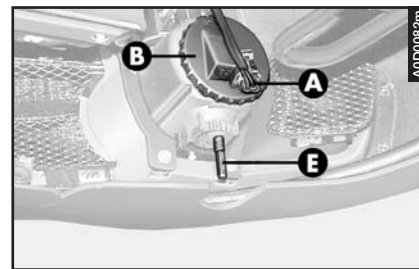

fig. 50
- Disconnect the connector (**A- fig. 50**) from the light unit.
**IMPORTANT** The screw (E- fig. 50) serves to adjust the beam of the foglights.